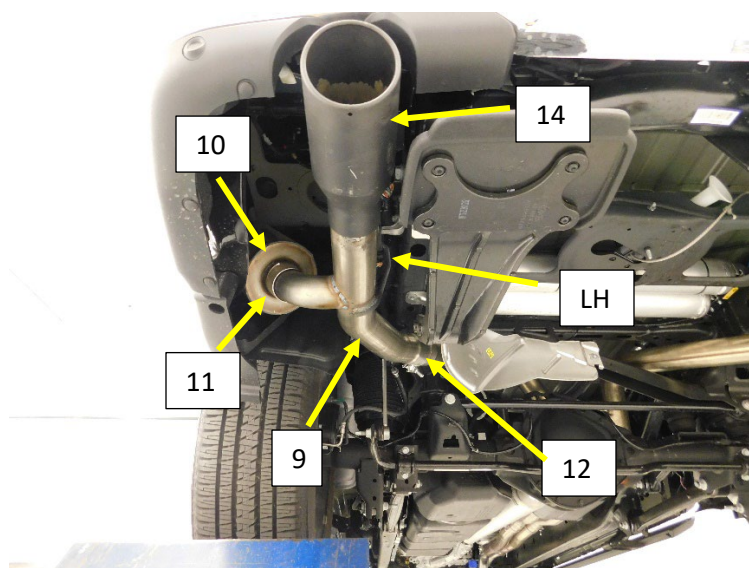
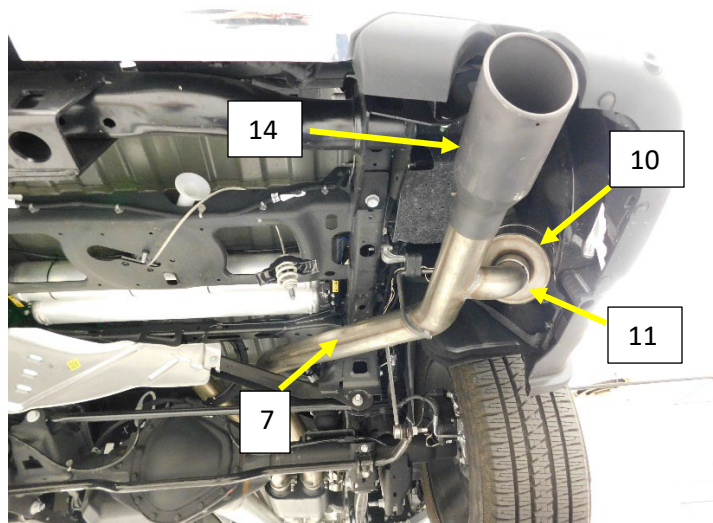

Figure. 13
Figure. 14
19. Install a 3" band clamp (12) on to the expanded end of the left Exit pipe (9). **Fig.13**
20. Install the left exit pipe (9) on to the outlet of the left-over axle pipe. **Fig.13**
21. Install the hanger rod (LH)into the isolator and tighten the clamp (12) to allow for adjustment.
22. Install a 2.5" band clamp (11) on to the inlet neck of both supplied resonator canisters (10).
23. Install the resonators on to the left exit pipe assembly (9) and right tail pipe (7). **Fig.13, Fig.14**
24. Position the resonator on the tube with the neck as far down the straight tube as possible but not into the bend. Tighten the 2.5" band clamp (11). **Fig.13, Fig.14**